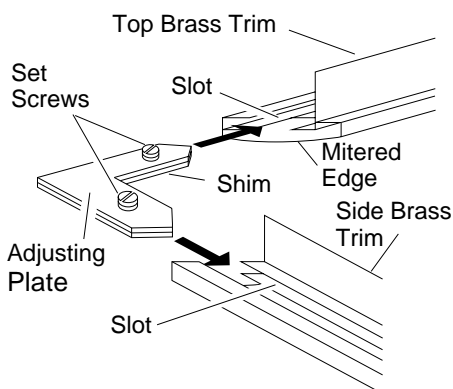

Figure 15 - Assembling Brass Trim
15. Adjust assembly to remove any gaps. Attach remaining two 3" wood screws from hardware pack through openings inside of fireplace sides into the mantel. The openings are located at top behind the area for the black louvers (see Figure 15).
3. Align shim under adjusting plate as shown in Figure 15.
4. Slide one end of adjusting plate/shim in slot on mitered edge of top brass trim (see Figure 15).
5. Slide other end of adjusting plate/shim in slot on mitered edge of side brass trim (see Figure 15).